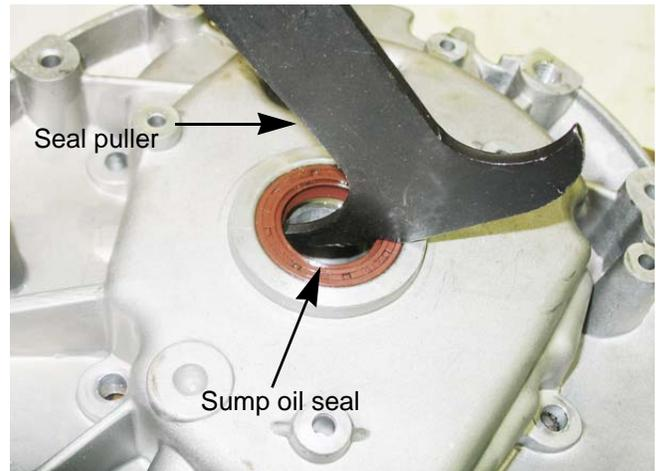

Figure 10.20
1. Remove the sump and cylinder block oil seals using a seal puller. See Figure 10.20.